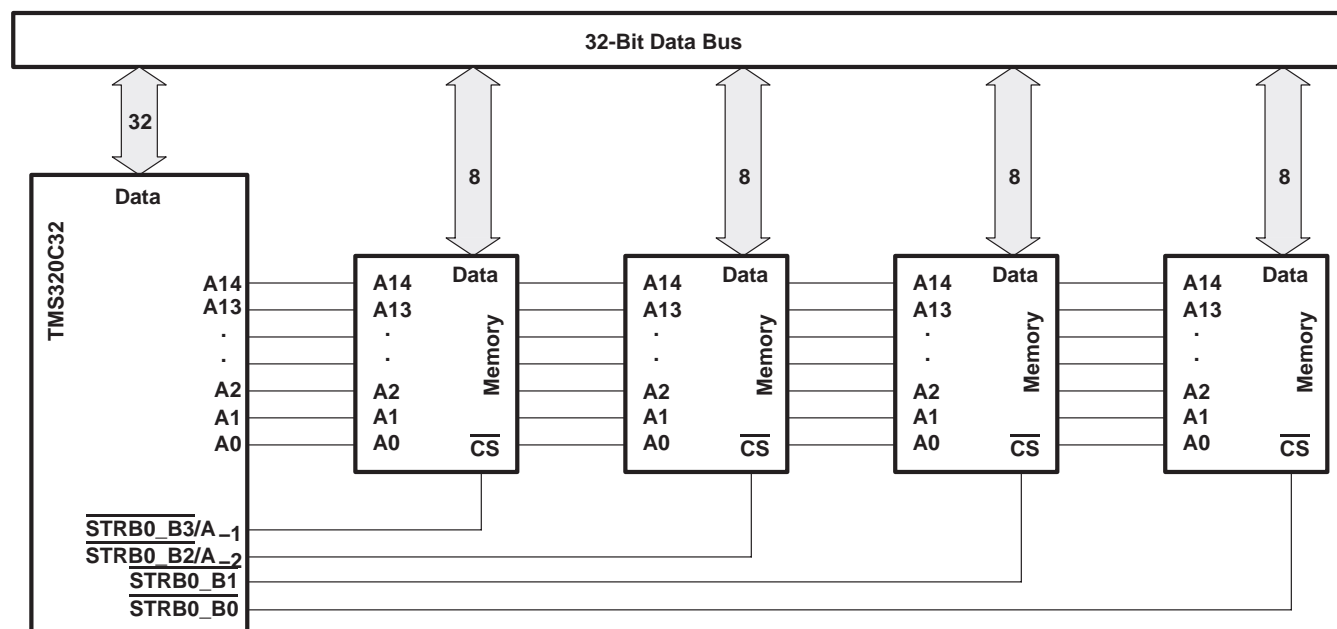

Figure 4. 'C32 With 32-Bit-Wide External Memory
- For 32-bit-wide physical memory, all $\overline{\text{STRB0}}$ and $\overline{\text{STRB1}}$ pins function as byte-enable (chip-select) pins. See Figure 4.